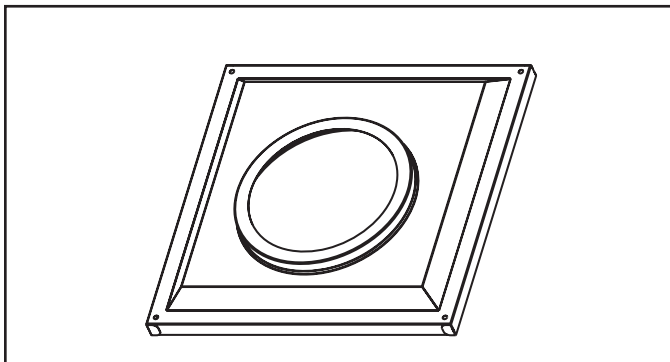

Figure 8.24 Wall Thimble
- Once the pipe section and the termination cap have been connected, slide the wall thimble up to the interior wall surface and attach with screws provided. See Figure 8.24.